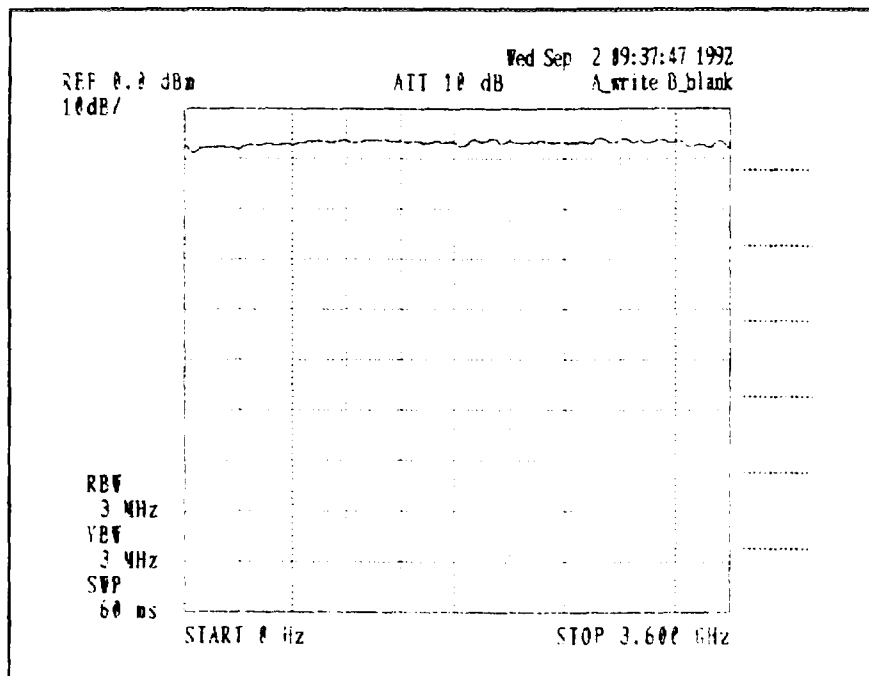

Figure 4-23 Trace of the feedthrough characteristic
- ③ Make sure of the position of the trace on the display, and adjust that position to the suitable grid area as is shown below in Figure 4-23.